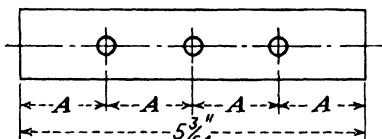

Fig. 120.
5. Holes are to be drilled on the fitting shown in Fig. 120 so that all distances marked A are equal. Draw a line $5\frac{3}{4}$ in. long, and locate the centers of the holes. Check the results with a rule.